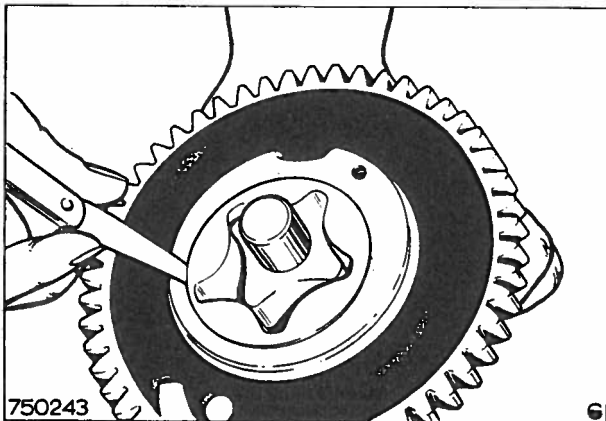

Fig. 6 Checking the clearance between the outer rotor and housing.
3. Check the clearance between the outer rotor and housing, Fig. 6. If the clearance is excessive (see Specifications) a new rotor assembly and/or a new pump assembly must be fitted.